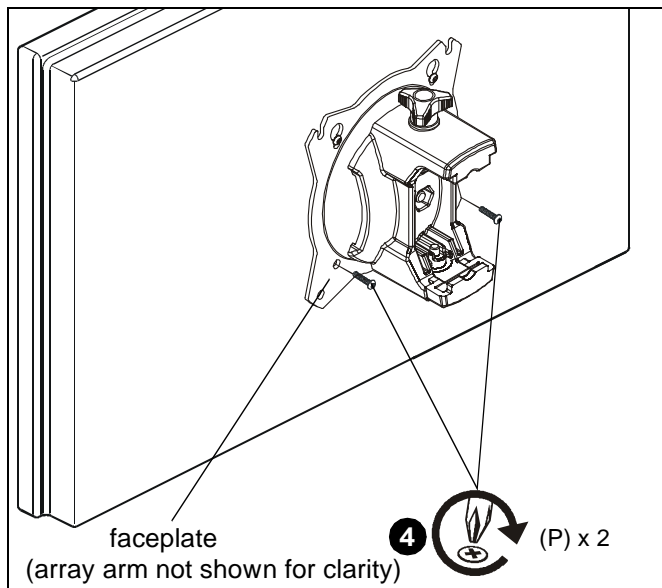

Figure 14
4. Using Phillips screwdriver, install two M4x12 mm Phillips pan machine screws (P) through the *lower* mounting holes on faceplate into the display. (See Figure 14)